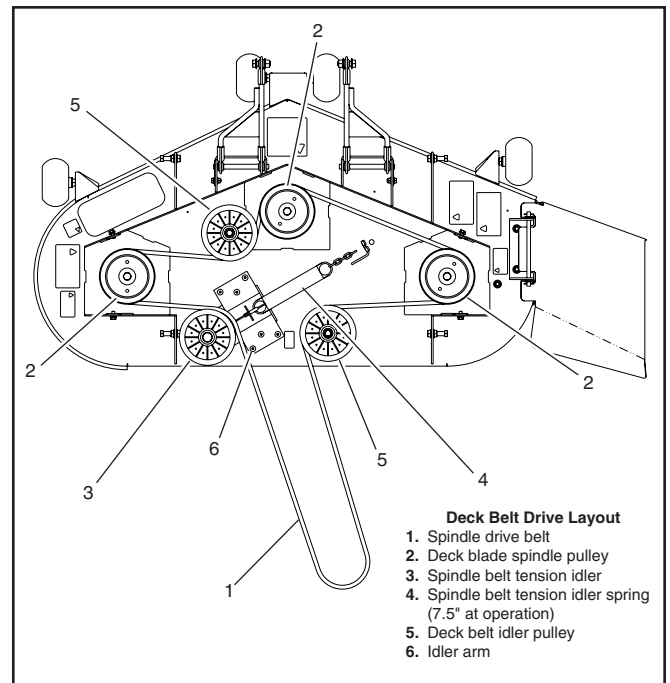

Figure 9-17
Figures 9-17 and 9-18 show diagrams and descriptions of the unit's belt drive systems.
7. Route the new belt per Fig. 9-17.
3. The deck belt must be removed from the clutch pulley first by releasing the deck belt tension by pulling on the belt tension chain and sliding the chain out of the anchor bracket slot. This will relieve the tension on the deck belt idler spring. Fig. 9-17